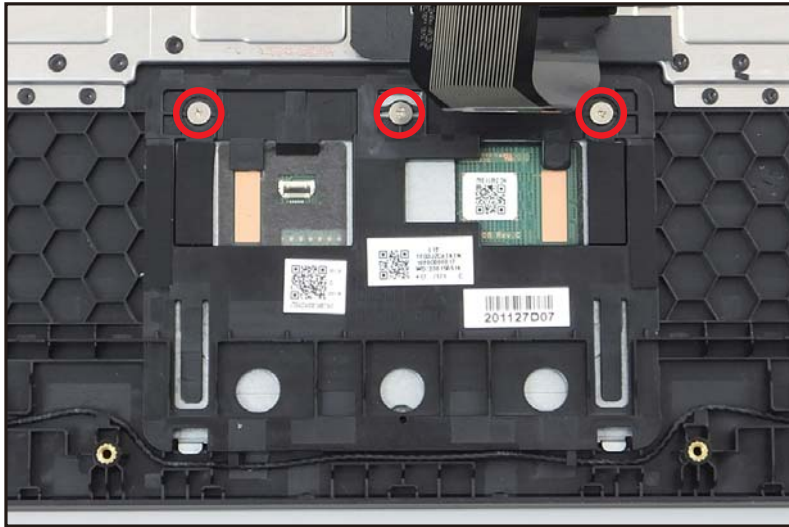

Figure 1-13. Touchpad Module Removal
5. Remove three (3) screws securing the touchpad module in place (Figure 1-13).